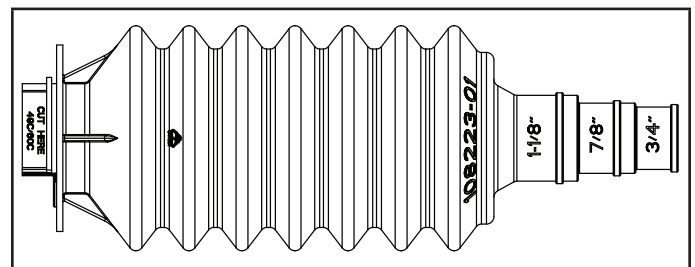

FIGURE 3. Line Set Joint Sleeve
- 2 - Determine the refrigerant suction line size. For suction lines of 7/8" or 1-1/8", trim the smaller end of the larger line set joint sleeve accordingly to accommodate the refrigerant piping (see figure 3).
NOTE – For sizes 48,49,50 and 60C, cut off marked section on line set joint sleeve (see figure 3)